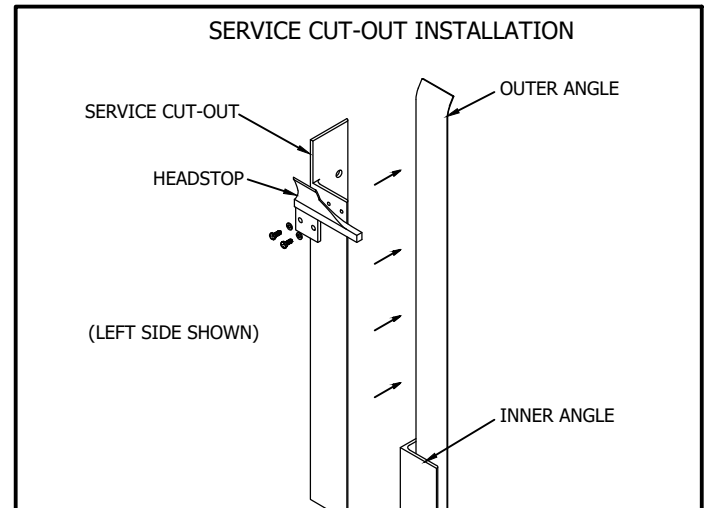

FIGURE 17
- i. Install the head stops to the service cut-outs. See Figure 17.
- j. Install guide service cut-outs with previously installed head stops as shown in Figure 17.